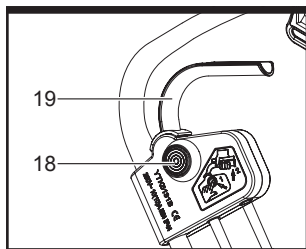

Fig. 9
The product is fitted with a lock-off button feature. To start the product, simply depress the lock-off button (18) then fully press and hold the start/stop level (19). The lock-off button can now be released. (See Fig.9)